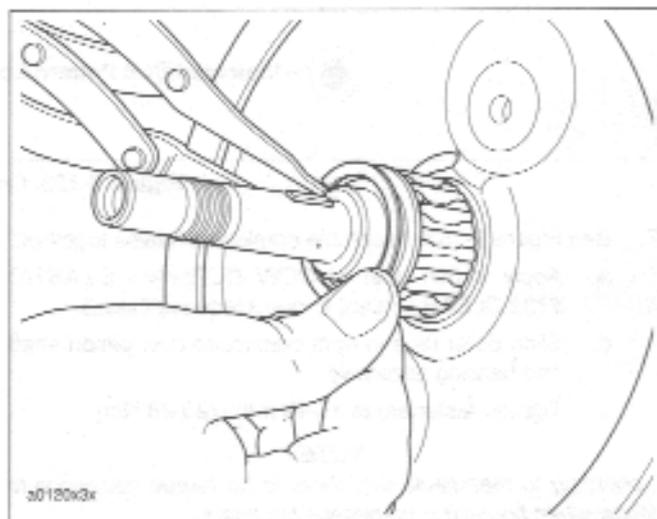

Figure 3-152. Pinion Shaft Bearing
6. See Figure 3-152. Install pinion shaft bearing.